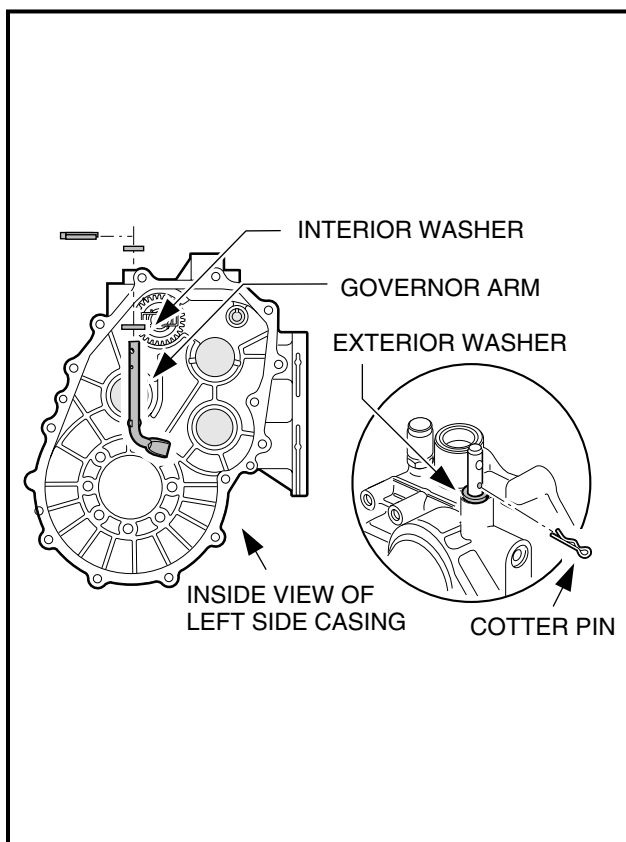

Figure 7-47 Pivot Arm
5. Position the interior washer on the pivot arm and install the pivot arm and washer into the left (driver side) case (**Figure 7-47, Page 7-25**). Install the exterior washer and cotter pin on the pivot arm outside the case. Bend the legs of the cotter pin.